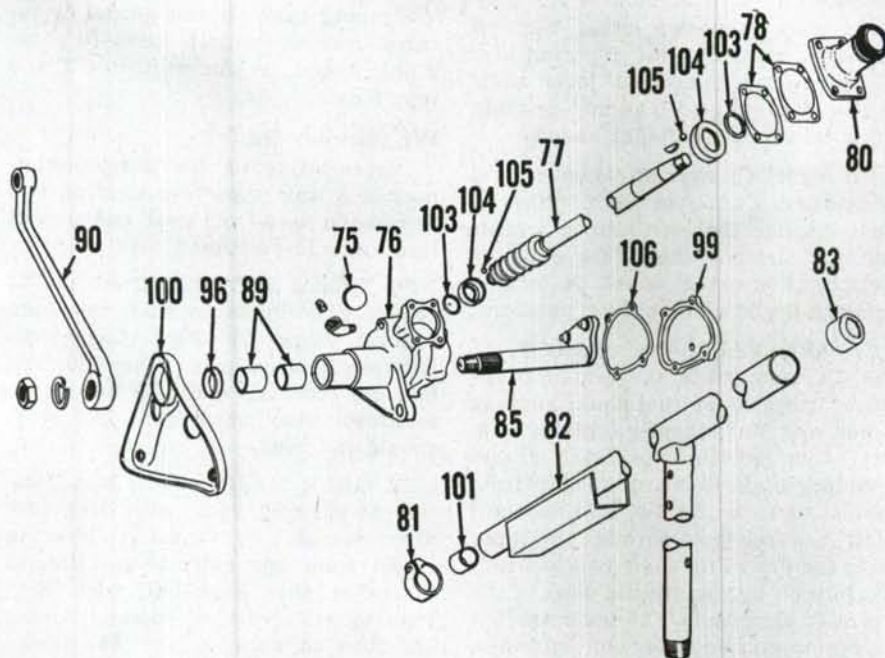

Fig. AC17—Ross steering gear assembly (exploded view) as used in later and current production B, C, and all CA tractor models.
(worm) bearings, remove steering wheel, loosen column jacket tube clamp Figs. AC17, AC18, AC19 and AC 20, and support clamp; then slide tube (82) up column. Remove cap screws retaining housing upper cover (80) to housing (on B, C, and CA, work through tool box opening to remove two lower cap screws). Remove shims (78) until shaft has zero end play, but rotates freely.